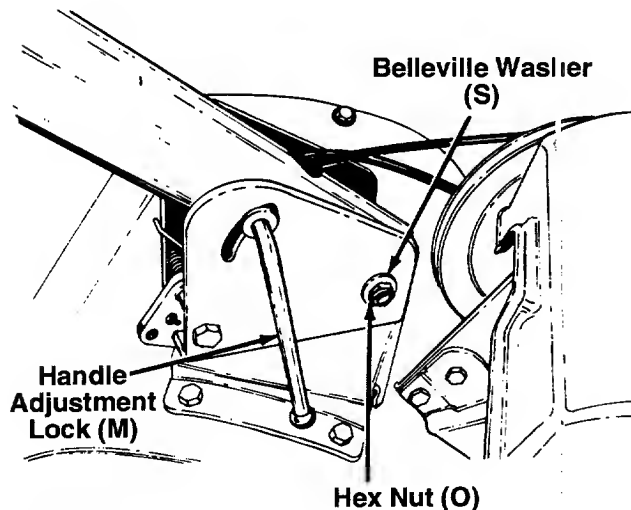

FIGURE 5.
13. Secure bottom of handle by placing belleville washer (S) (cupped side against the pivot bracket) and hex nut (O) on hex bolt (N). Do not tighten at this time. See figure 5.
14. Insert handle adjustment lock (M) through handle pivot bracket and handle assembly. See figure 5. Thread end of handle adjustment crank into shoulder nut.